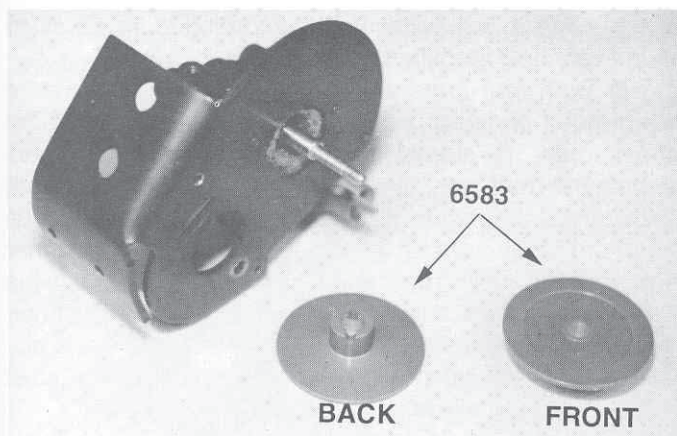

Fig. 63
□ **Fig. 63** We can now start to assemble the Associated Torque Control assembly. Go to bag E and remove the #6583 inner torque control hub. Fig. 63 shows you both a front and back view of the inner hub. We now need to slide the inner hub over the drive gear/shaft. We want to install the back side first (the side with the slot) so that we can line up the slot in the hub with the #6572 roll pin going through the shaft. We want the slot, in the hub, to go down over the roll pin so that it will be locked with the shaft when the shaft rotates.